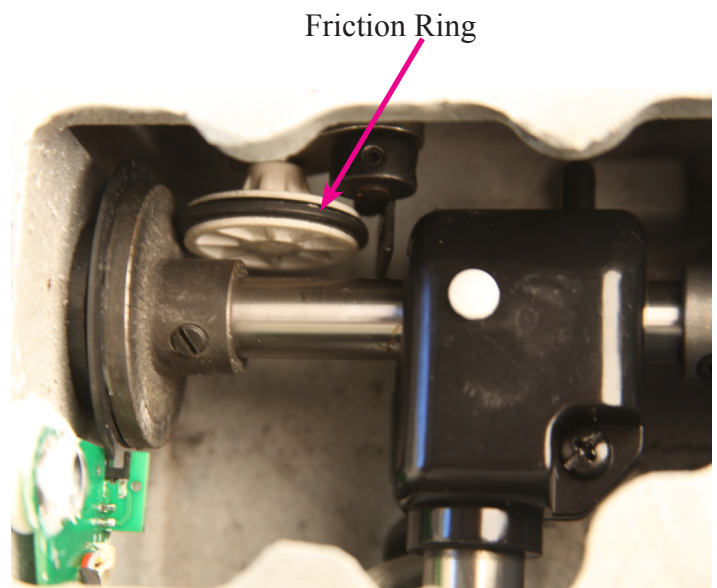

Figure 93
Step 3: The bobbin winder disk with the friction ring needs to contact the disk on the upper shaft when engaged. *See figure 93*